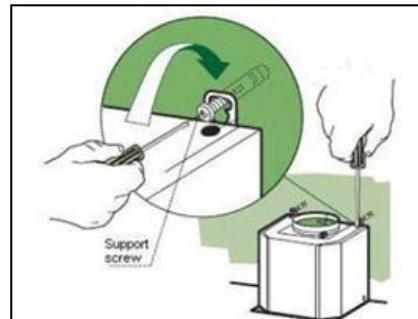

Fig. 9
- Fix the hood body to wall using 2(two) ST5 x 40 screws provided. Tighten screws firmly. Note: Adjust the hood body alignment if necessary (Fig. 9).
**Aligning the hood body (if necessary) (Fig. 9)**